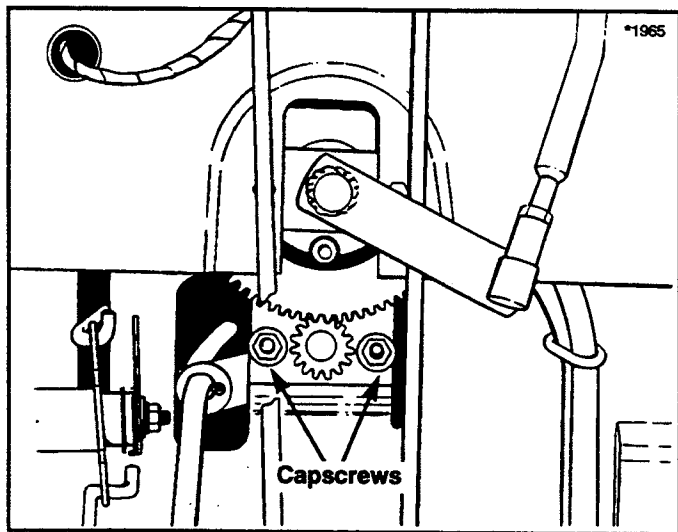

Figure 35. Steering Gear Adjustment
1. See figure 35. Loosen the two capscrews and adjust the bracket so the gear teeth are closely meshed.